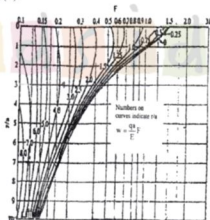

Fig. Q2(c)
c. A dual wheel load assembly with 70 kN load on each wheel and contact pressure of 0.7 N/mm^2 is applied on a homogeneous mass with modulus of elasticity 12 N/mm^2 . If the centre to centre distance between the two wheels is 600 mm, determine the deflection value at a depth of 0.5 m at four points, at the centre of dual wheels, and at radial distances of 300, 600 and 900 mm from this centre along the line joining centers of the two wheel loads. Use deflection factor chart Fig. Q2(c). (08 Marks)